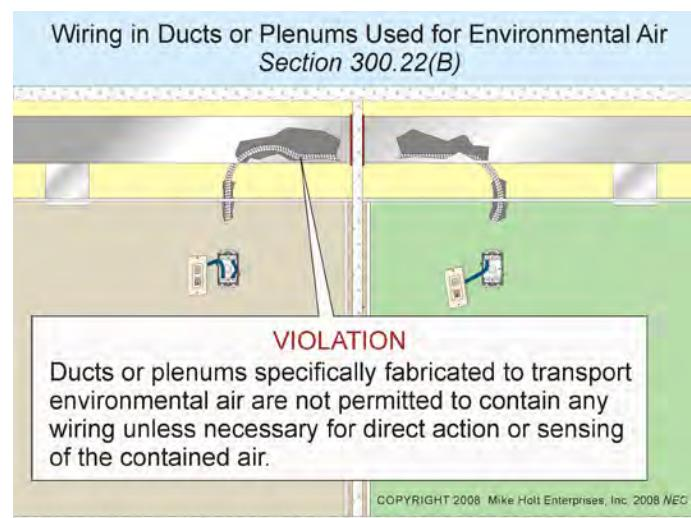

Figure 300-42
(B) Ducts or Plenums Used for Environmental Air. Where necessary for direct action upon, or sensing of, the contained air, Type MI cable, Type MC cable that has a smooth or corrugated impervious metal sheath without an overall nonmetallic covering, electrical metallic tubing, flexible metallic tubing, intermediate metal conduit, or rigid metal conduit without an overall nonmetallic covering can be installed in ducts or plenums specifically fabricated to transport environmental air. **Figure 300-42**